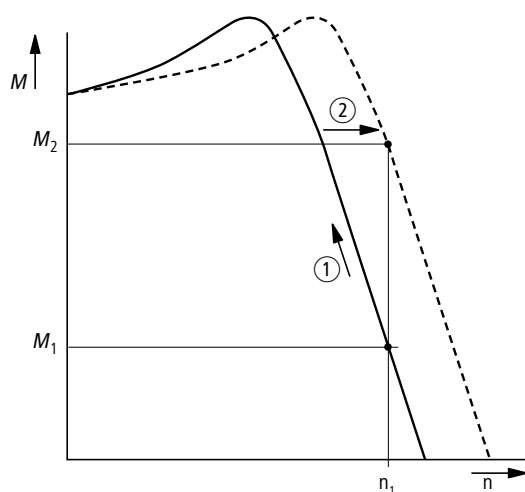

Figure 71: Speed behavior with slip compensation
The simple illustration shows that, as the load torque increases ①, the resulting speed reduction is compensated by an increase in the output frequency ② (→ Figure 71).